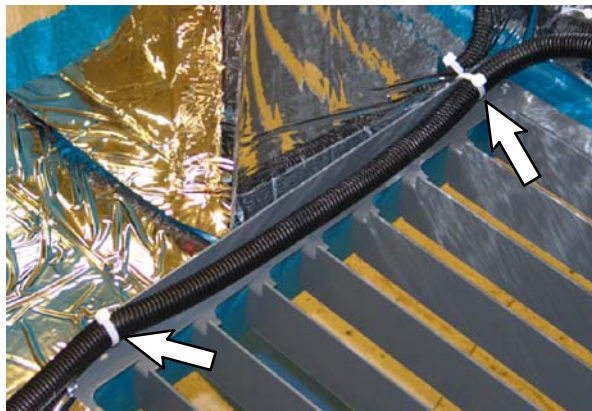

FIG. 9
22. Use two cable ties to secure the alarm / strobe harness (19) to the rear louvre panel on the main cover. Refer to Fig. 9.